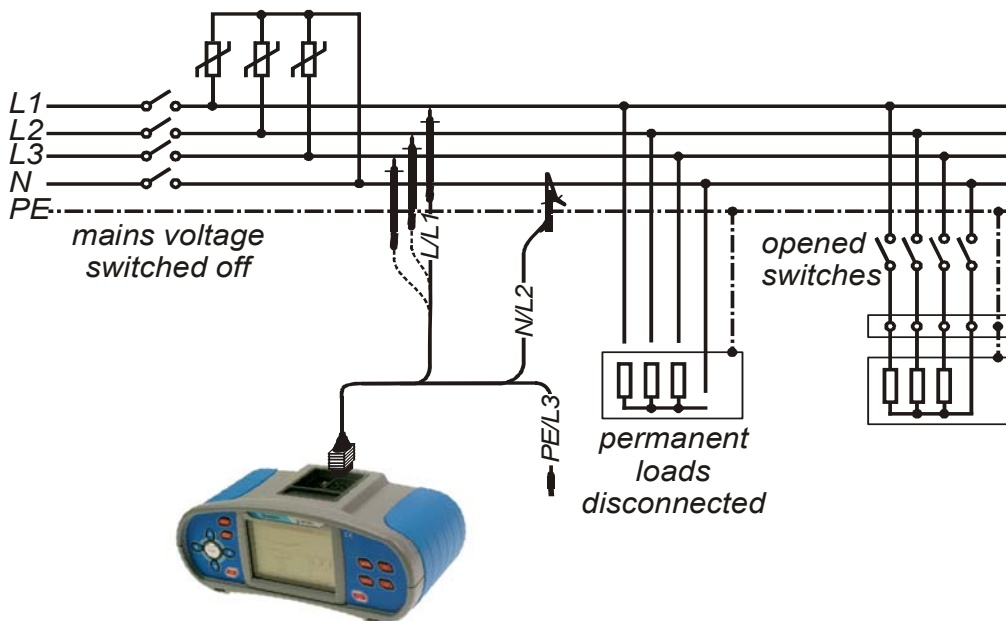

Figure 5.61: Connection of universal test cable for varistor test
- ❑ **Connect** test cable to the instrument and tested item (see figure 5.61).